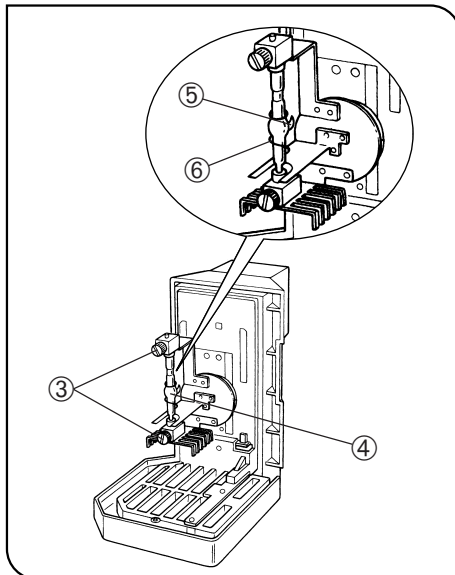

Fig. 5
3. Place the socket section upside down as shown in Fig. 5.